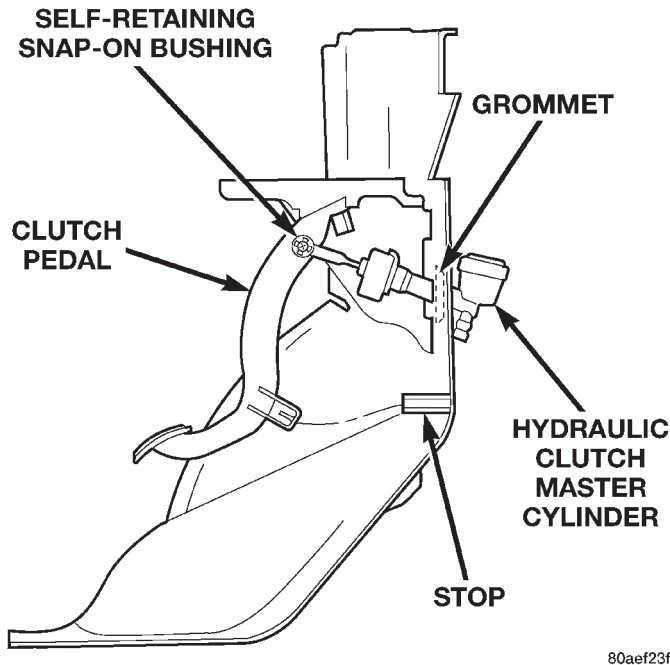

Fig. 16 Clutch Master Cylinder — RHD
(4) Remove the rubber grommet at the master cylinder pass through in the dash panel (Fig. 16).
(5) Remove the master cylinder assembly from the engine compartment by rotating it clockwise from the 12 o'clock lock position to the 2 o'clock unlock position and pulling the master cylinder out tilted 20 degrees down. **NOTE: A “Twist and Lock” type mechanism is used to secure the master cylinder to the clutch pedal bracket which is attached to the dash panel.**
(1) Position the master cylinder assembly to the clutch pedal bracket by tilting it 20 degrees upward and at the 2 o'clock unlocked position.
(2) Rotate the master cylinder counterclockwise to the 12 o'clock locked position.
(3) Install the rubber grommet into the dash panel at the master cylinder pass through (Fig. 16).